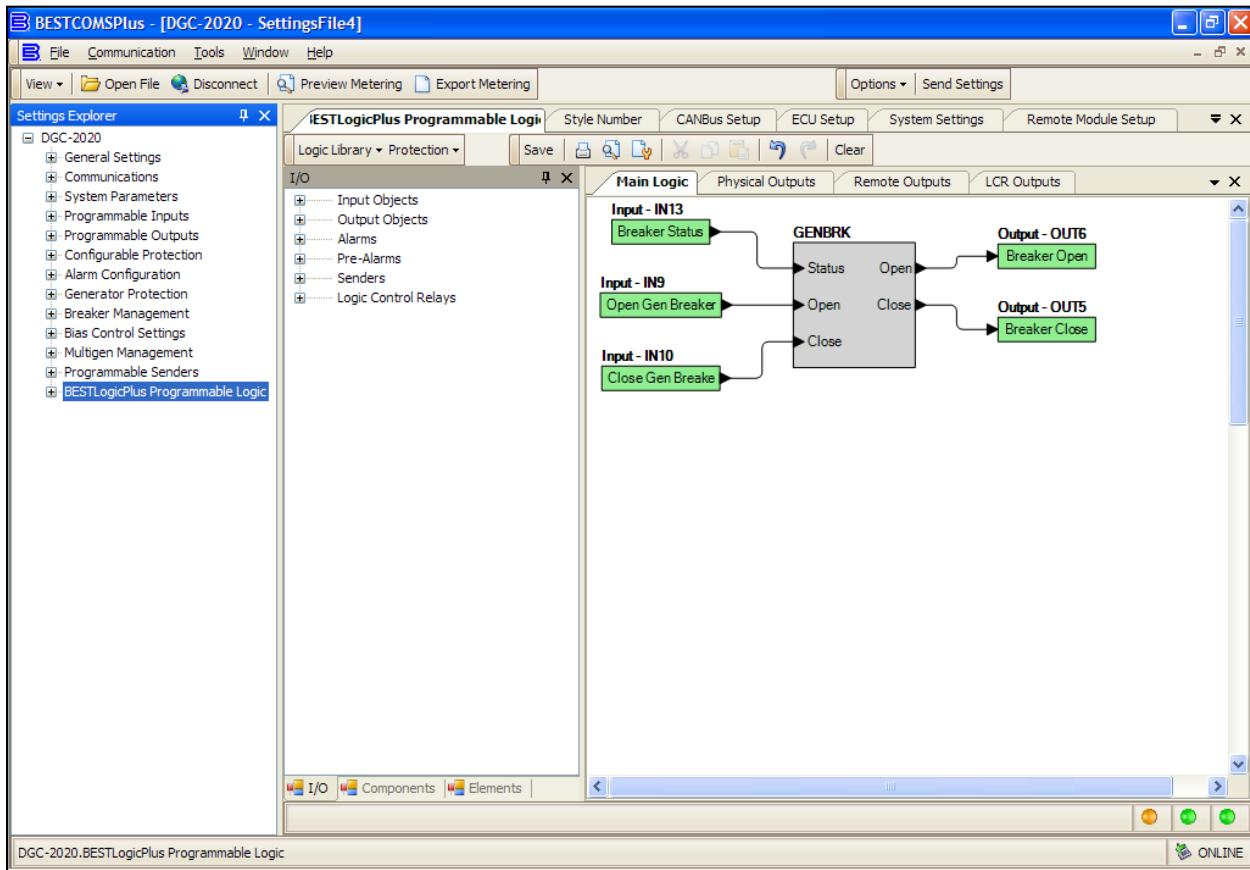

Figure 6-69. Settings Explorer, BESTLogicPlus Programmable Logic (Step 13)
13. Next, click on the I/O tab, drag the inputs assigned in step 3 above to the main logic, and connect them to the appropriate input or output of the Generator Breaker block. Note the “Open Gen Breaker” and “Close Gen Breaker” are inputs to the generator breaker block, and are used to request a breaker open or close through contact inputs. The “Gen 52 Open” and “Gen 52 Close” are outputs from the DGC-2020 to the physical breaker. The DGC-2020 opens or closes the generator breaker through these control signals. See Figure 6-69.